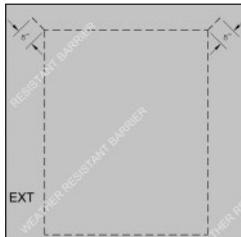

FIG. 5
- F) Cut the weather-resistant barrier (WRB) along the perimeter of the rough opening. Ensure the WRB is cut flush with the sheathing and is not wrapped into the rough opening. (Fig. 5)
- G) From the exterior, cut the top of the WRB to form a flap. (Fig. 5)